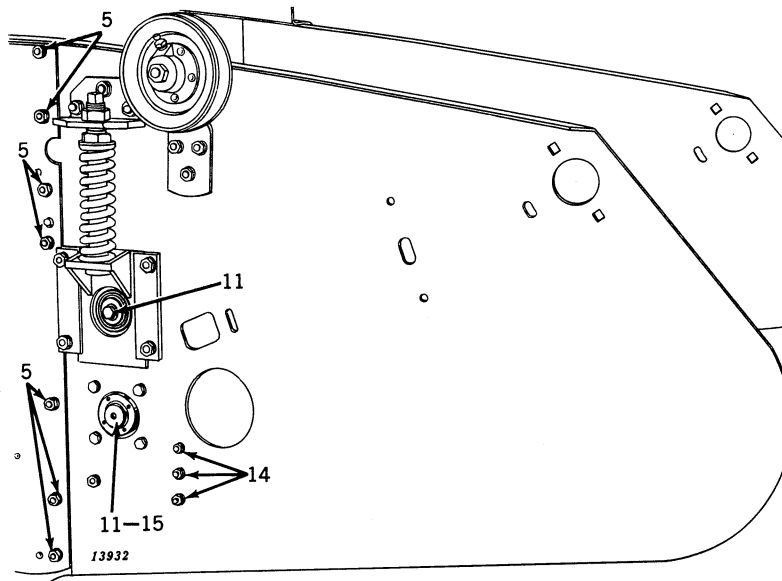
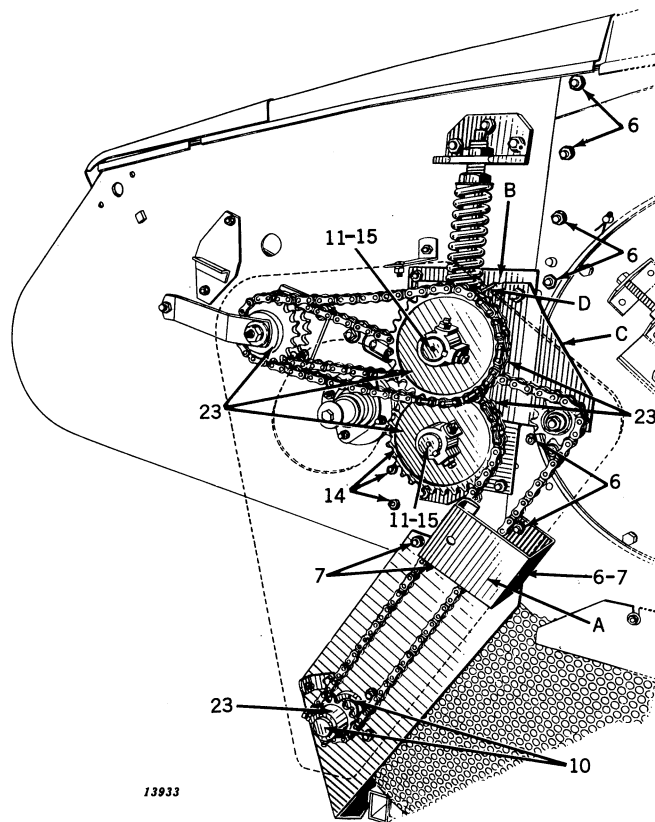
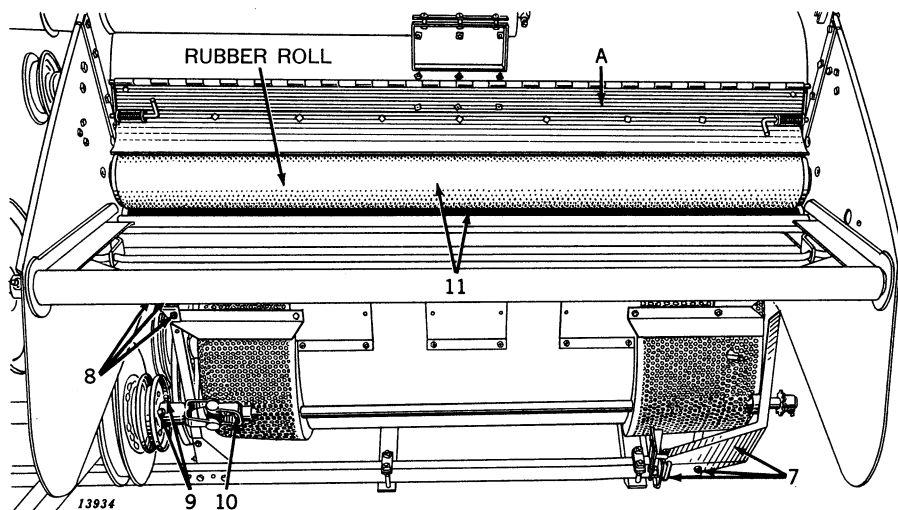
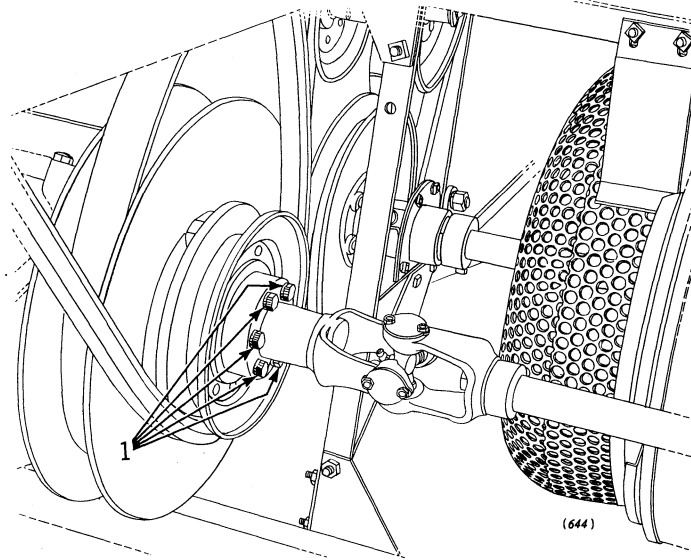

Figure 6
Figure 7
Figure 8
Figure 13
5. (Figure 6) Bolt extension sheet to right hand-side sheet as shown.
6. (Figure 7) Bolt extension sheet to left-hand side sheet as shown. At same time bolt drive chain shield bracket "A" in place as shown.
7. (Figure 7) Bolt fan cross angle support bracket to extension for left hand side sheet, at the same time bolt feed roll drive shaft support to separator side left hand. Bolt feed roll drive shaft support to separator cross support tube with bolt and U-bolt as shown in Figure 8.
8. (Figure 8) Bolt bracket (bolted to right hand side sheet extension) to fan cross angle and upright support angle, right hand.
9. (Machines below Serial No. 12-33268) (Figure 8) Replace separator drive sheave with new one furnished.
10. (Figure 7 and 8) Loosen retainer in left hand bearing housing; slide drive shaft through bearing (from inside) and bolt to universal joint (welded to new separator drive sheave). Note 1: *Machines Serial No. 12-33268 and up*, universal joint bolts directly to separator drive sheave with six longer cap screws furnished. See 1, Figure 13. Note 2: *On early machines* it will be necessary to cut holes in fan screen (see Figure 8) before drive shaft can be installed. It will also be necessary to notch front of both fan shutters to allow complete movement of shutters. After shaft is set in place tighten retainer.
11. (Figures 6, 7, and 8) Remove plate "B," Figure 7, on left-hand side of machine, at the same time remove drive chain tightener bracket "C," Figure 7, and upper roll adjusting assembly "D," Figure 7. Slide upper roll (rubber) through opening and into bearing box on right-hand side; place large washer, then bearing, then other large washer onto right-hand end of roll. Hold in place by screwing cap screw with lock washer into right-hand end of shaft. Wire left-hand end of roll up out of way, slide lower roll (steel) through opening and into bearing box in right hand side. *Note: Before inserting roll shaft in right-hand side be sure that the bearing and two snap rings (one on either side of bearing) are placed in bearing box. Do not lock shaft to bearing at this time.*
12. (Figure 8) Replace cylinder cover "A" with new one furnished
13. (Figure 7) Place bearings and snap rings into lower bearing box in plate "B," slide plate onto rolls and rebolt to machine. Do not rebolt drive chain tightener bracket "C" or upper roll adjusting assembly "D" to combine at this time.
15. (Figures 6 and 7) Center steel roll between side sheets and lock bearings both sides. Install bearing and snap ring in adjusting assembly "D" Figure 7. Slide assembly onto upper roll shaft and rebolt to machine. At the same time rebolt main drive chain tightener "C," Figure 7, to machine. Center rubber roll in machine and lock bearing in left hand side.
23. (Figure 7) Assemble sprockets as shown and attach drive chains. After drive chains are installed line up lower sprocket on feed rolls drive shaft with other sprockets.
1. Bolt hub on universal joint and separator drive sheave to hub on gear case as shown in Figure 13, with longer cap screws furnished, instead of just bolting separator drive sheave to hub on gear case as described in step 4, "Main Drive Gear Case," OM-H4. The balance of the installation of "Main Drive Gear Case" is the same as that given in OM-H4.